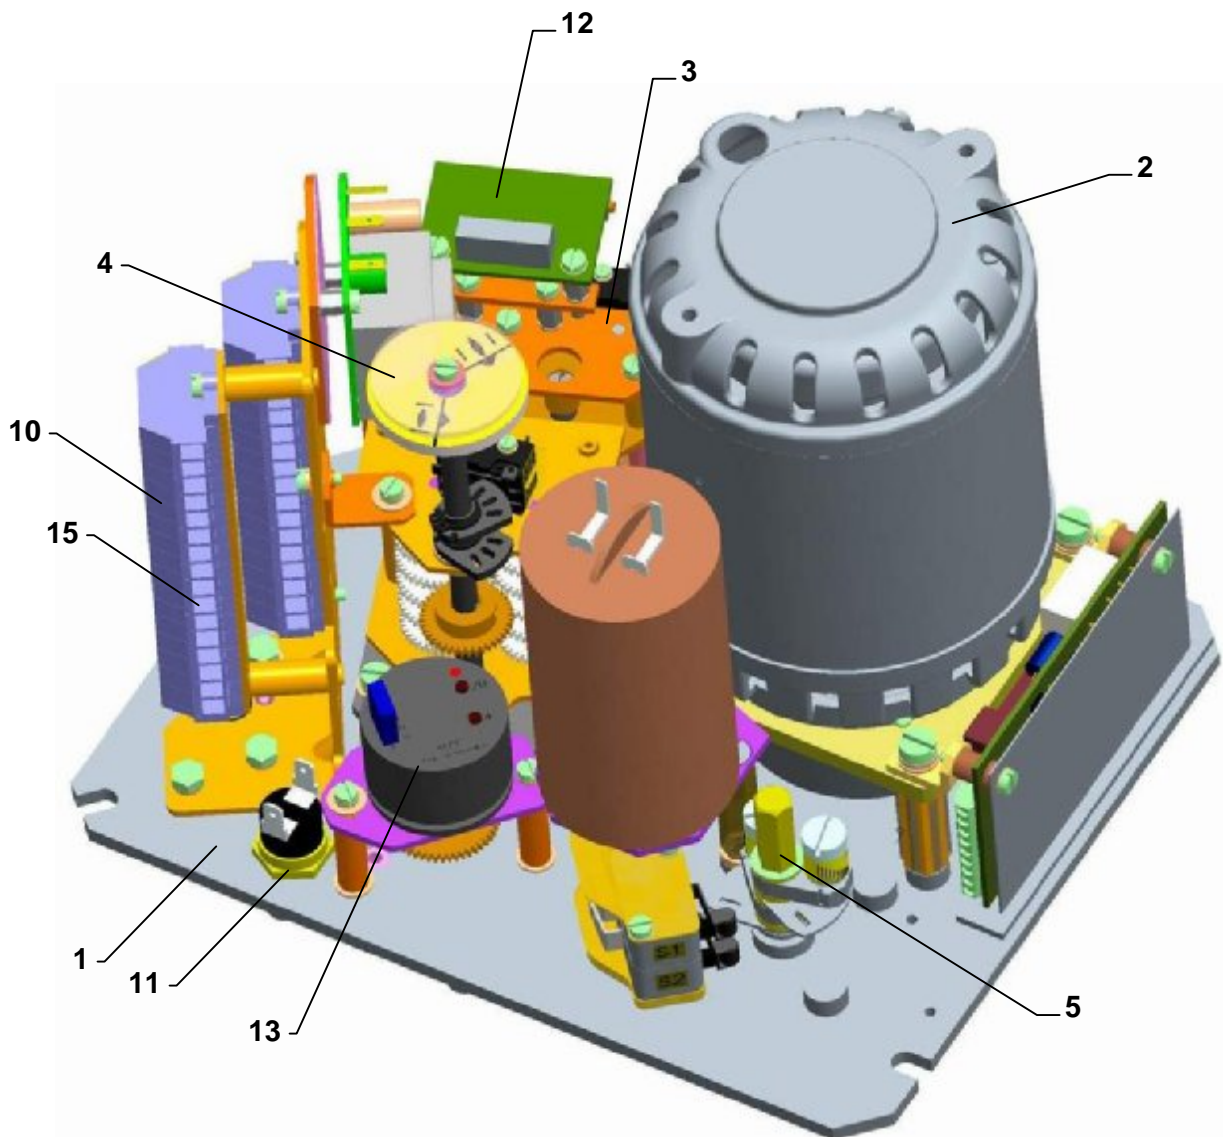

Fig.1
The control part (Fig. 1) is located on the control board (1), which contains:
- an electric motor (2) (for the single-phase version it is with a capacitor)
- a torque unit (5) – controlled by axial motion of a worm gear
- a position-signalling unit (3) with a mechanical local position indicator (4)
- an electronic position transmitter (12)
- a position transmitter (13)
- a space heater with) with thermal switch. (11)
- electric connection is realised using **terminal boards** (10) (located in the control area) and cable bushings with cable bushings